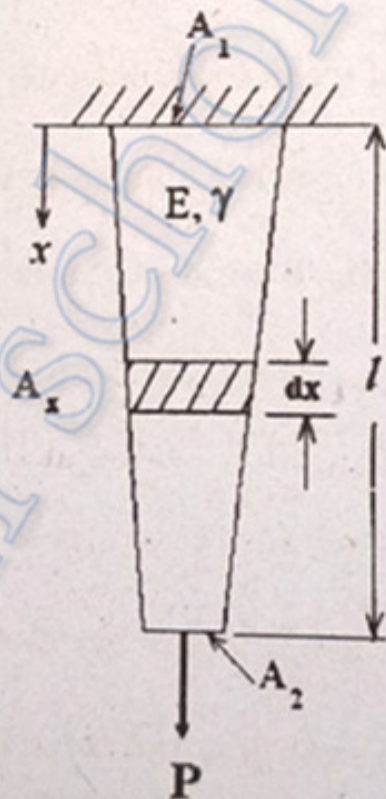

Fig.11(b)
- (b) Derive the governing equation for a tapered rod fixed at one end and subjected to its own self weight and a force P at the other end as shown in Fig.11(b). Let the length of the bar be l and let the cross section vary linearly from A_1 at the top fixed end to A_2 at the free end. E and γ represent the Young's modulus and specific weight of the material of the bar. Convert this equation into its weak form and hence determine the matrices for solving using the Ritz technique.